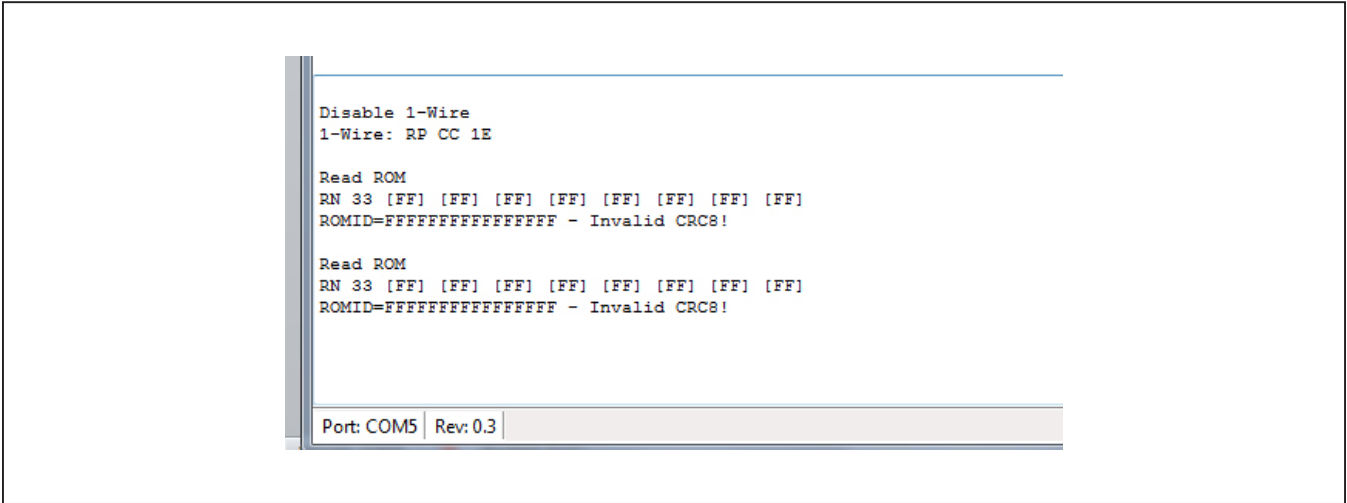

Figure 14. DS28E17 EV Kit Software GUI, Tools Menu (Sleep Condition Log Results)
- **Sleep:** This selection makes the device go into sleep mode. After selecting this option, the device no longer responds to any command until a high-level signal is detected on the WAKEUP pin. See Figure 14 for example log returns after **Sleep** condition.